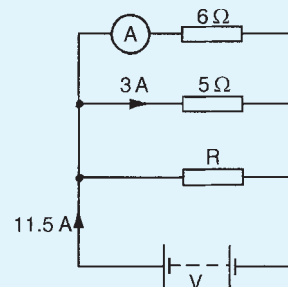

Figure 5.29
- For the circuit shown in Fig. 5.29 determine (a) the reading on the ammeter, and (b) the value of resistor R